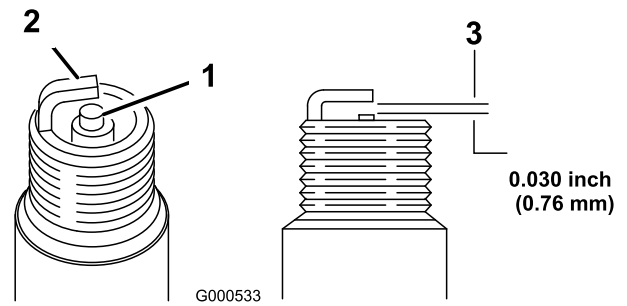

Figure 31
8. Set the gap on the plug to 0.030 inch (0.76 mm) (Figure 31).